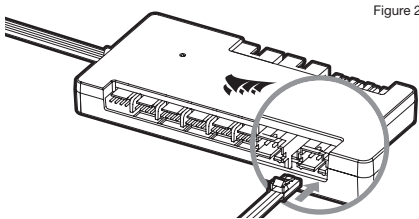

Figure 2
2. Insert the RGB connector in a CORSAIR Commander PRO port or Lighting Node PRO port (Figure 2).